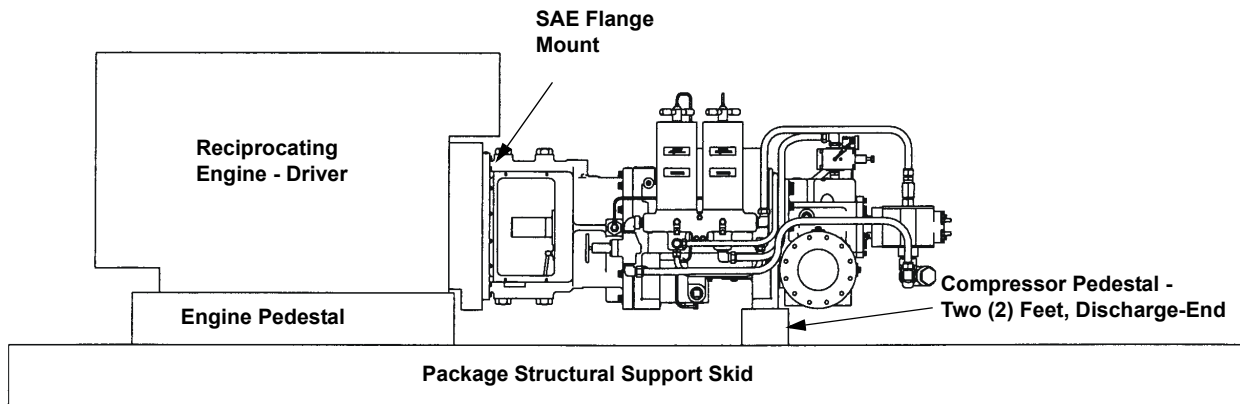

FIGURE 2-1 ENGINE/RGM COMPRESSOR ARRANGEMENT - TYPICAL FLANGE MOUNTED
Ariel RG rotary screw compressors, when supplied with an SAE mounting-flange are designed to be mounted directly to the driver. The three point mounting method uses the two (2) rear compressor feet and the SAE mounting-flange to attach the compressor to its pedestal and the driver flange, see Figure 2-1 on Page 2-2. When supplied without a bell